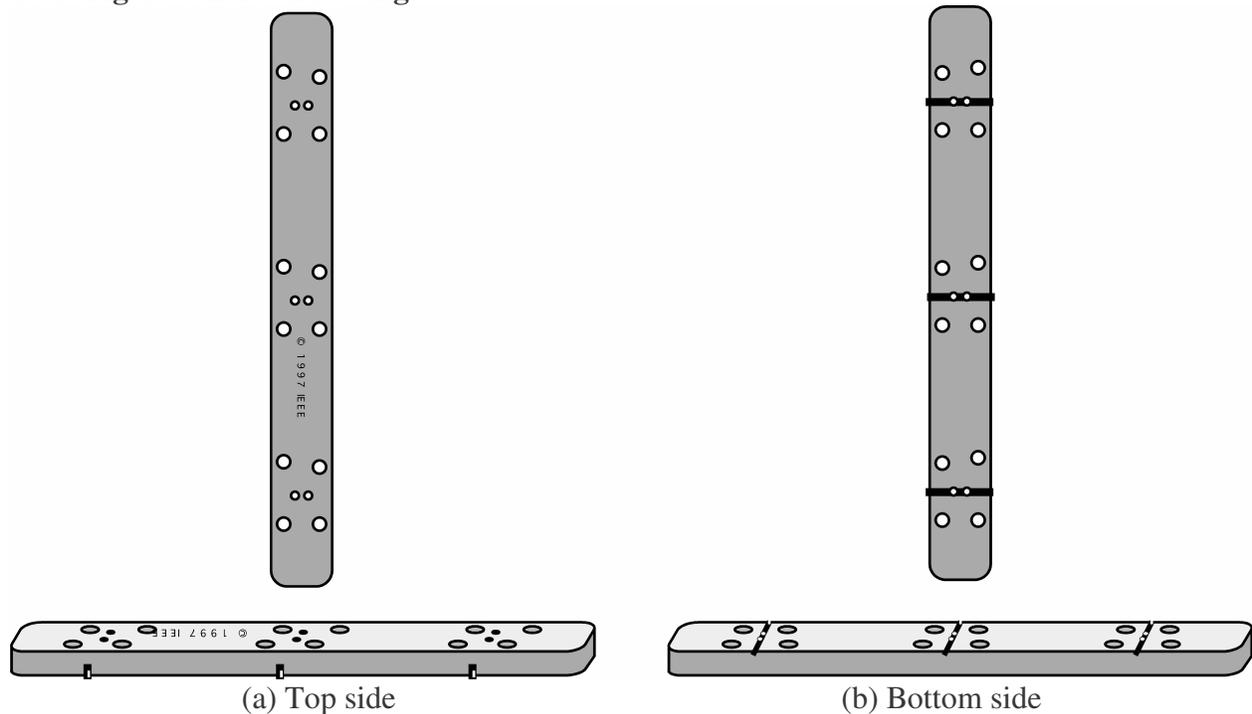

Figure 7. The molded body
**Insert Figure 7 here. Drawing**